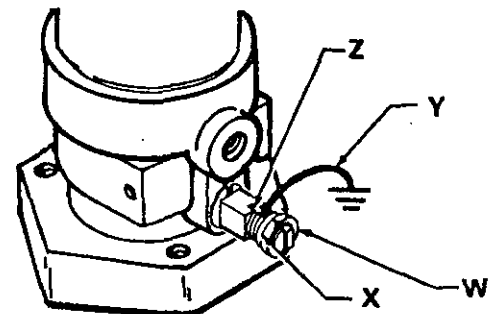

Fig 1
1. *Pump:* use a ground wire and clamp as shown in Fig 1.
To ground the pump, loosen the grounding lug locknut (W) and washer (X). Insert one end of a 1.5 mm2 (12 ga) minimum ground wire (Y) into the slot in lug (Z) and tighten the locknut securely. See Fig 1. Connect the other end of the wire to a true earth ground.